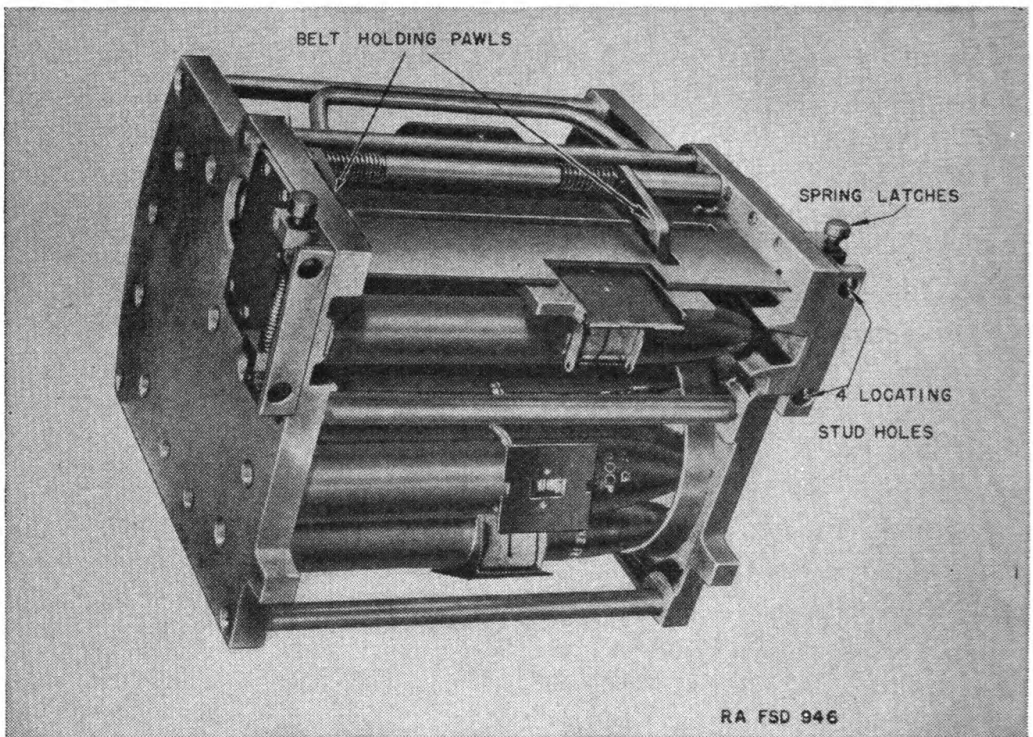

FIGURE 7.—Magazine, 15-round, loaded, 37-mm automatic gun M4.
d. Continue loading the belt into the magazine until the belt holding pawls are in position to engage between the first and second rounds which will enter the gun (these are the last and next to last to enter the magazine) (fig. 7).